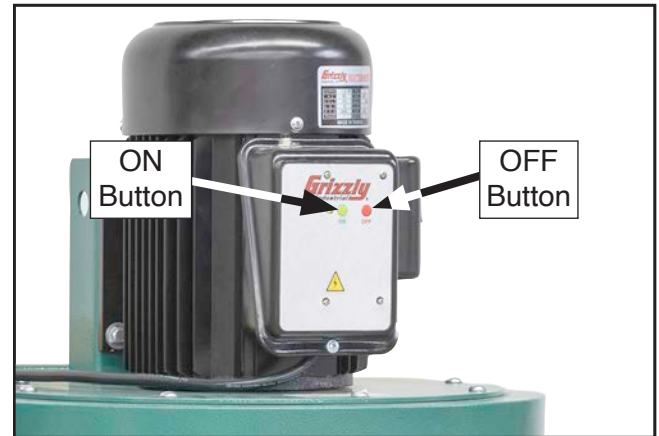

Figure 26. Location of ON and OFF buttons.
4. Standing away from intake port, press ON button (see **Figure 26**) to turn machine **ON**. Verify motor starts up and runs smoothly without any problems or unusual noises.